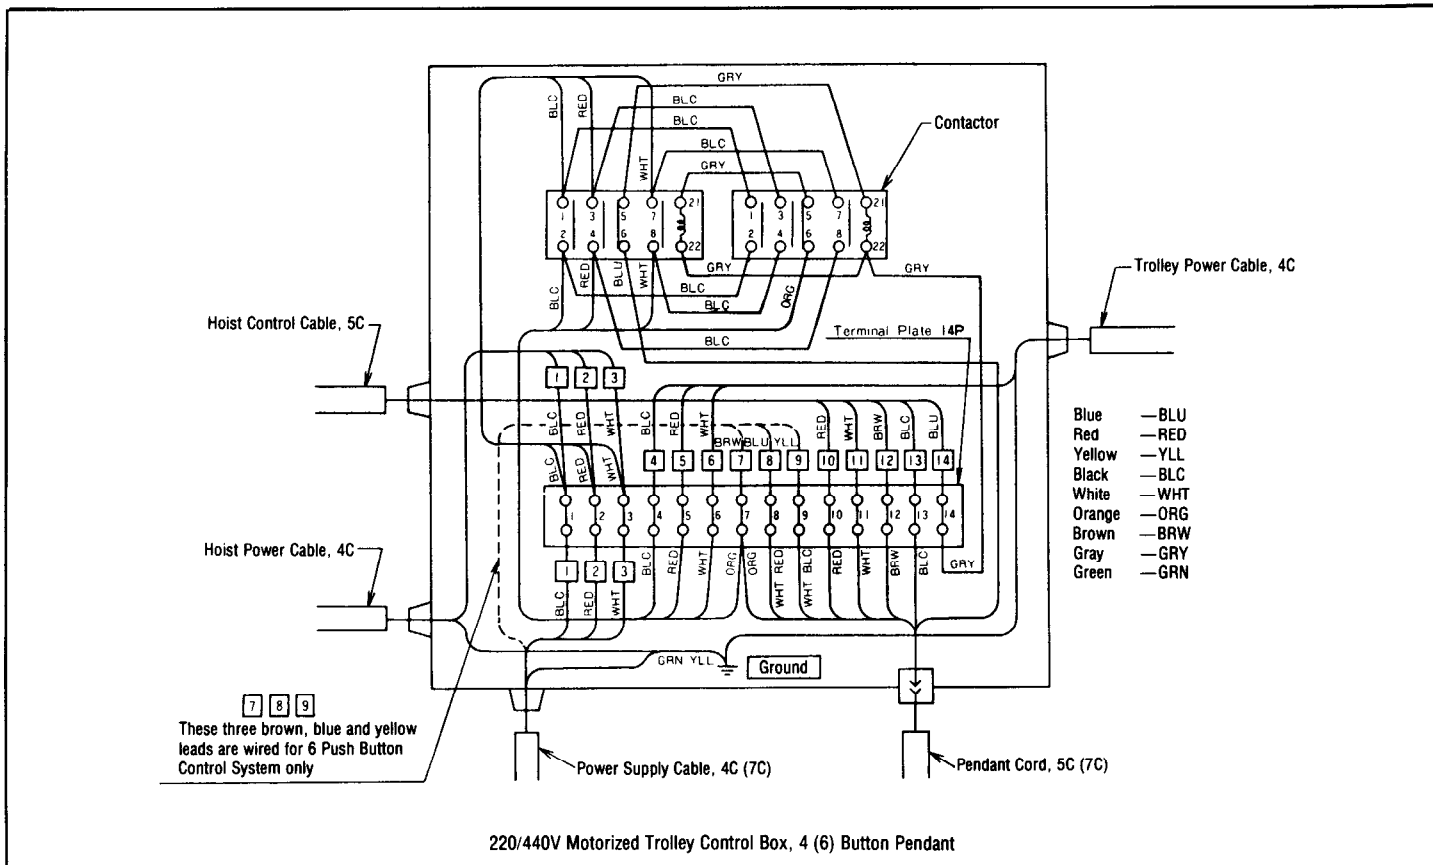

Fig. 9
- c) Connect the red, black and white conductors of the four conductor wire to the 14 lug terminal strip. See Fig. 9.